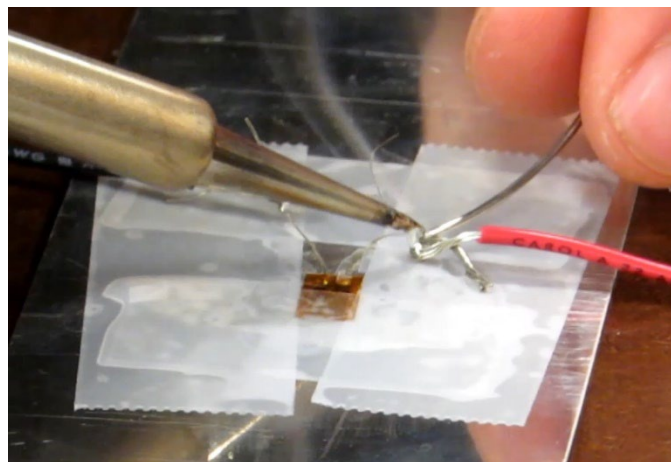

Figure 4. Solder the connecting joint between the red wire and gage leads
- (n) Start the soldering process by tinning the soldering iron. Then hold the solder in place on the joint and melt it with the tip of the solder iron (Fig. 4). Remove the iron and the joint will solidify. Once the soldered joint cools off, pull it slightly to ensure a good connection. If there is excess solder, remove it with a desoldering pump. Cut off all remaining bare ends of the connecting red wires as well as the lead wires of the gage. Wash hands to remove any residues of the lead solder.